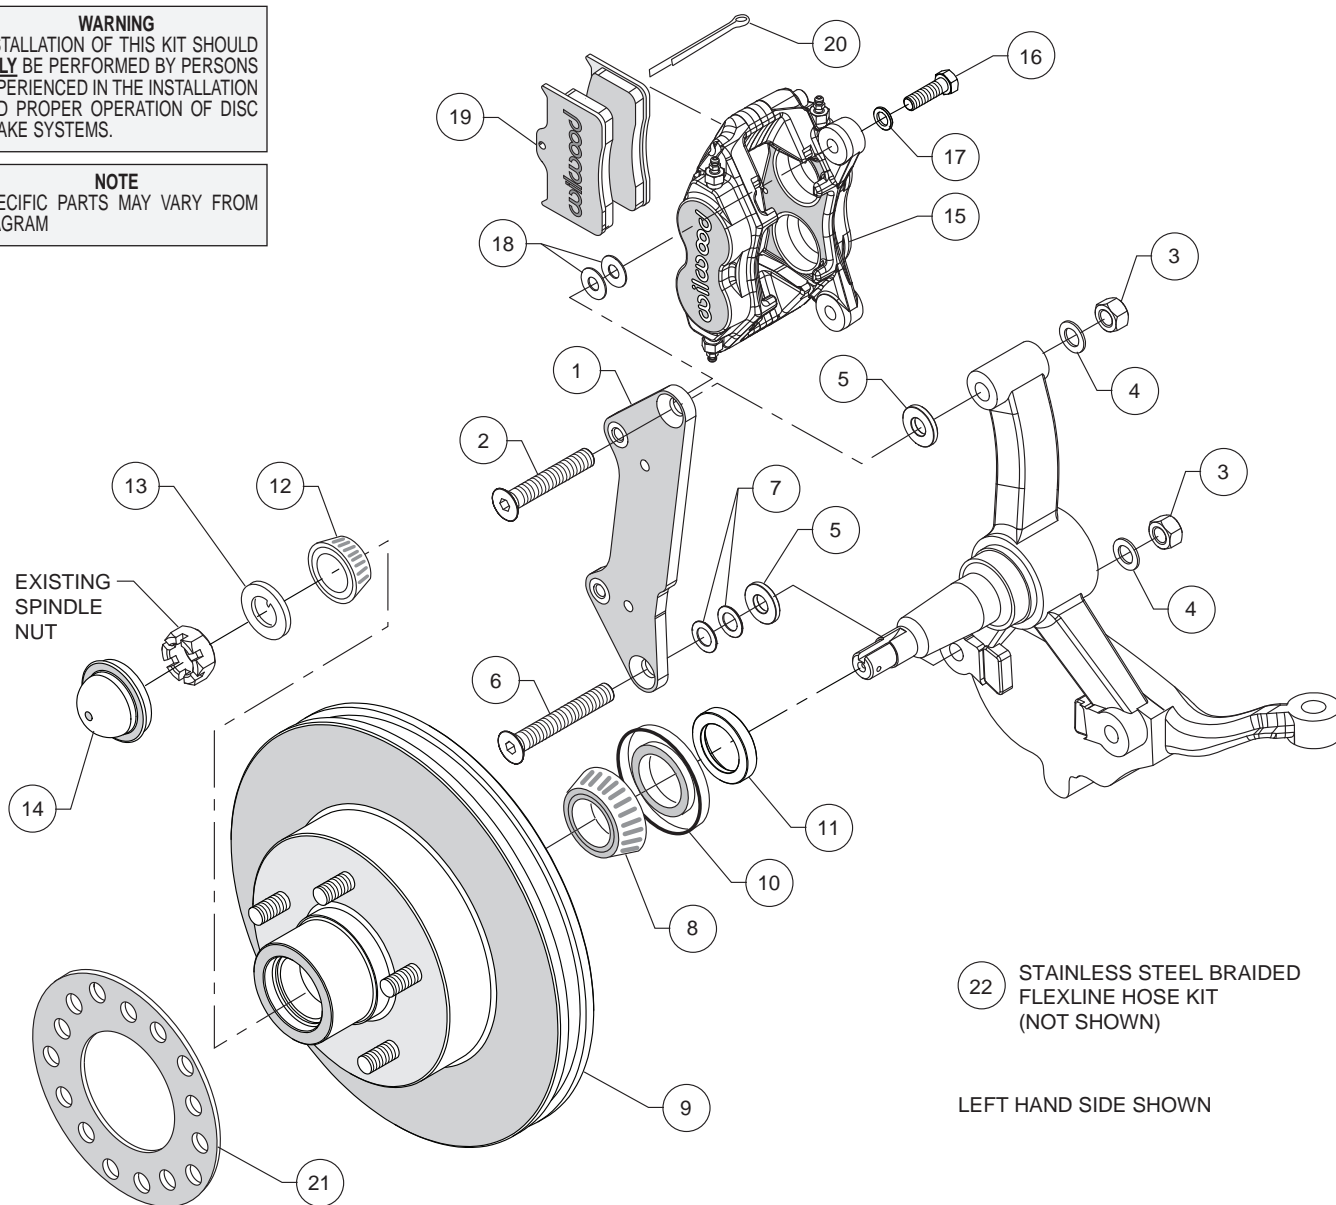
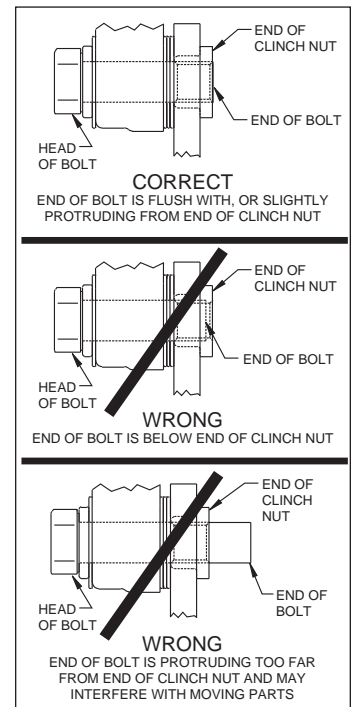

Figure 1. Typical Installation Configuration
Figure 3. Clinch Nut Engagement Diagram
**Assembly Instructions** (numbers in parenthesis refer to the parts list and Figure 1 on the preceding pages): **CAUTION:** All mounting bolts must fully engage clinch nuts. Be sure to check that all bolts are either flush or protruding through flanged side of clinch nut after shimming, Figure 3.
•The caliper bracket (1) should initially be installed with clean, dry threads on the mounting bolts. Orient the bracket as shown in Figure 1 and Photo 1, and install using bolts (2/6), nuts (3) and washers (4). Place a .147" thick spacer (5) positioned between the bracket and spindle on both the upper and lower bolts, as shown in Figure 1. Initially place two .032" thick shims (7) on the lower bolt between the bracket and spacer, Figure 1. Ensure that the flanged heads of the clinch nuts in the bracket are facing outboard, Photo 1. Temporarily tighten the mounting bolts.
•Pack the large inner bearing cone (8) with high temperature disc brake bearing grease (available from your local auto parts store) and install into the backside of the hub (9), Photo 2.
•Install the grease seal (10) by pressing into the backside of the hub (9), flush with the end of the hub.
•Slide the bearing spacer (11) onto the spindle. Ensure the chamfered I.D. faces inward, Photo 3.
•Temporarily install the hub/rotor (9) onto the spindle using outer bearing (12), spindle washer (13), and spindle nut. Check that the caliper mounting bracket (1) is aligned parallel to the rotor, Photo 4. If not, adjust by adding or subtracting shims (7) on the lower bolt between spacer and bracket, Figure 1. Once the bracket alignment is correct, remove bolts one at a time, apply red *Loctite*® 271 to the threads and torque nuts to 77 ft-lb.
•Remove hub/rotor and pack the small outer bearing cone (12) with high temperature disc brake bearing grease and final install into the front side of the hub (9). Slide the hub/rotor onto the spindle. Secure using spindle washer (13), and original spindle nut. Bearing adjustment: Tighten the nut while turning the hub. When there is a slight bind on the bearings, they are seated correctly. Back the nut off about 1/6 to 1/4 of a turn, or sufficiently to allow .001" to .007" end play. **WARNING:** Failure to back off adjusting nut could cause bearing to run hot and be damaged, which could cause the wheel to lock or come off. Install a new cotter pin (not supplied), Photo 5.
•Press the dust cap (14) into the hub (9), Photo 6.
•**NOTE:** Please reference the caution statement at the beginning of the assembly instructions. Mount the caliper (15) onto the caliper mounting bracket (1) using bolts (16) and washers (17), as shown in Figure 1. Initially place two .035" thick shims (18) on each bolt between the caliper and the bracket, Photo 7. Temporarily tighten the mounting bolts and view the rotor (9) through the top opening of the caliper. The rotor should be centered in the caliper, Photo 8. If not, adjust by adding or subtracting shims between the bracket and the caliper. Always use the same amount of shims on each of the two mounting bolts. **NOTE:** The end of each bolt must be flush with or slightly protruding from the head of the clinch nut, as shown in Figure 3. If necessary place spare shims between washer (17) and caliper mounting ear to achieve the proper clinch nut engagement. Once the caliper alignment and clinch nut engagement are correct, remove the bolts one at a time, apply red *Loctite*® 271 to the threads, and torque to 40 ft-lb.
•Install the disc brake pads (19) into the caliper, with the friction material facing the rotor (9), Photo 9. Secure in place using cotter pin (20), Photo 10.
•Install wheel spacer (21), if necessary for wheel clearance, Figure 1 and Photo 11. Temporarily install wheel and torque lug nuts to manufacturer's specification. Ensure that the wheel rotates freely without any interference.
•**NOTE:** OEM rubber brake hoses generally cannot be adapted to Wilwood calipers. The caliper inlet fitting is a 1/8-27 NPT. Install Wilwood's stainless steel braided flexline hose kit (22), P/N 220-6471 included with this kit, Photo 12. **Carefully route hoses to prevent contact with moving suspension, brake or wheel components.** **NOTE:** Wilwood hose kits are designed for use in many different vehicle applications and it is the installer's responsibility to properly route and ensure adequate clearance and retention for brake hose components.